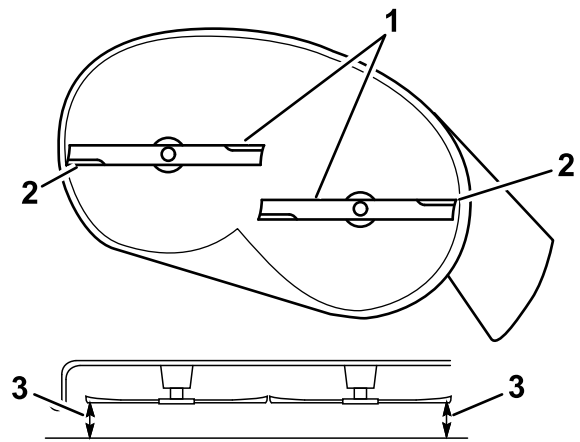
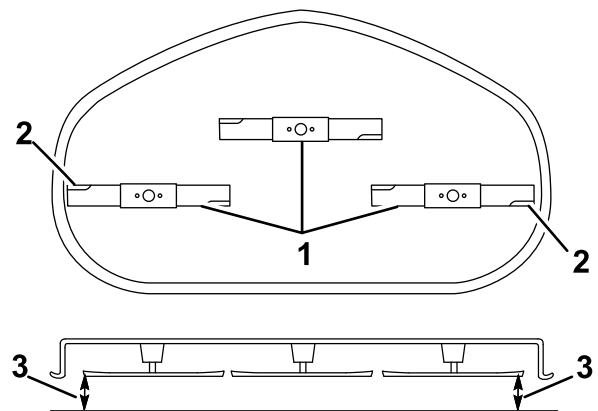

Figure 62
Figure 63
5. Measure between the outside cutting edges and the flat surface (Figure 62 and Figure 63).